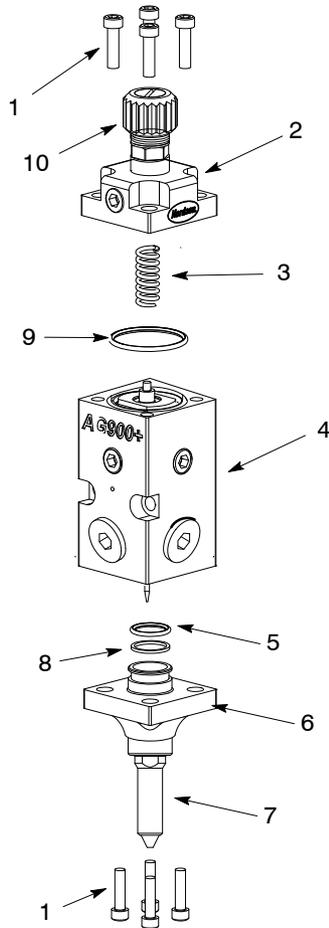

Figure 14: AG-900+/AG900+S Applicator Assembly
7. See Figure 14. Install new large o-ring (9) on top of piston cartridge.